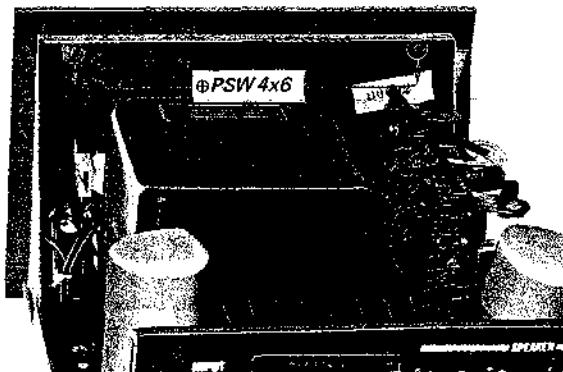

Fig. 2-2. Front panel removal
3. Remove the two screws (\oplus PSW 4x6) behind the top edge of the front sub-chassis as shown in Fig. 2-2.